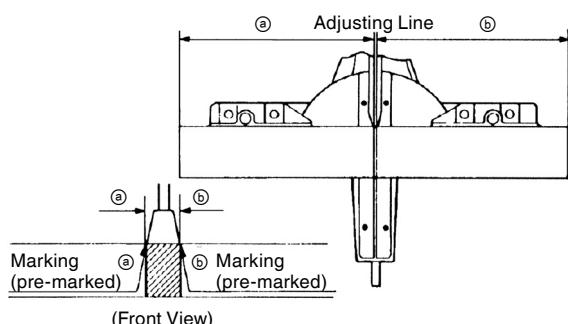

Fig. 25
- (1) As shown in Fig. 25 the width of the saw blade is the width of the cut. Therefore, slide the workpiece to the right (viewed from the operator's position) when length ④ is desired, or to the left when length ③ is desired.